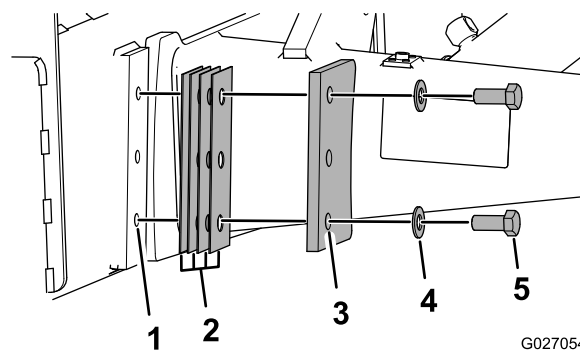
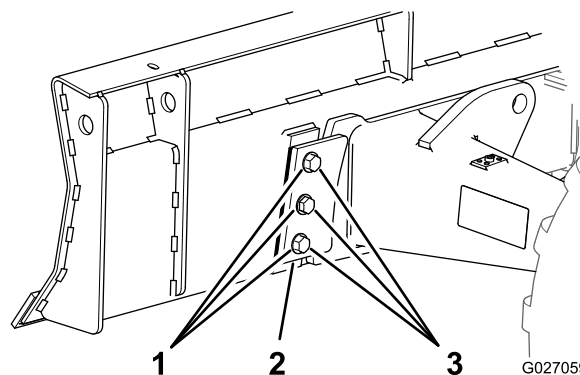

Figure 36
Figure 37
A. Remove the bolts and washers (Figure 36).
B. Add a retainer shim between the threaded plate of the backfill blade and the retainer plate (Figure 36).
C. Assemble the retainer plate, bolts, and washers until they are hand tight (Figure 36).
8. Assemble the backfill blade to the mounting plate at each side of the machine with the 2 retainer plates, 6 bolts (5/8 x 1-1/2 inch), 6 washers (5/8 inch), and the shims (Figure 36 and Figure 37) that you determined in step 5.